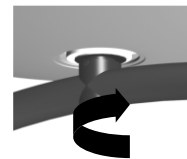

Fig. 2.2B
- 2) Now turn the Luna clockwise 90° and await a little click - this indicates correct mounting (see fig. 2.2B).